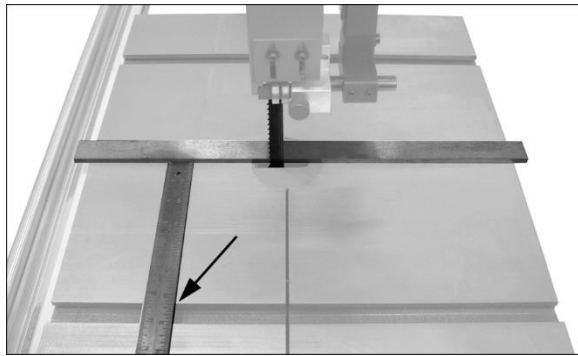

Figure 5-14
5. With blade tension lever in *tension* position, place a long straightedge flush against blade, making sure it evenly contacts both front and back of blade. See Figure 5-14. *Do not deflect blade by pushing into it.*
6. Use a gauge (Figure 5-14) to carefully measure distance from miter slot edge to straight edge. Take measurements at both front and back of table – these should be identical.